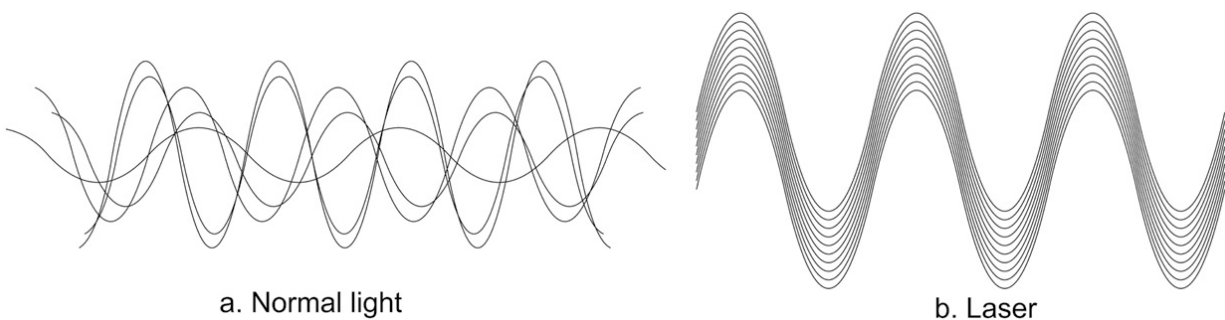

Fig 7.12 Normal and laser light
- **Monochromatic:** Laser light is highly monochromatic, the wavelength spread of laser light is of the order of 0.01 \AA , whereas ordinary light white light source has wavelength spread (Fig 7.12 a) of 3000 \AA (Fig 7.12 a).
- **Coherent:** Laser light is highly coherent. We can observe interference phenomena by laser beam. All the waves composing laser beam have same phase (Fig 7.12 b).